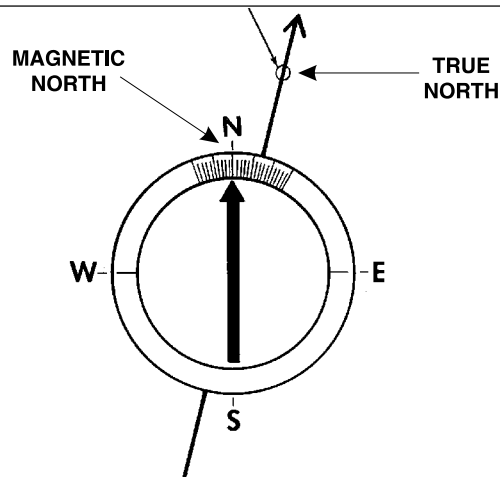

Figure 9. Sample Compass Reading
3. Rotate the antenna so the arrow points North, plus  $14^{\circ}$  (i.e., arrow points to  $014^{\circ}$ ). See figure 9. The antenna is now pointing toward True North.